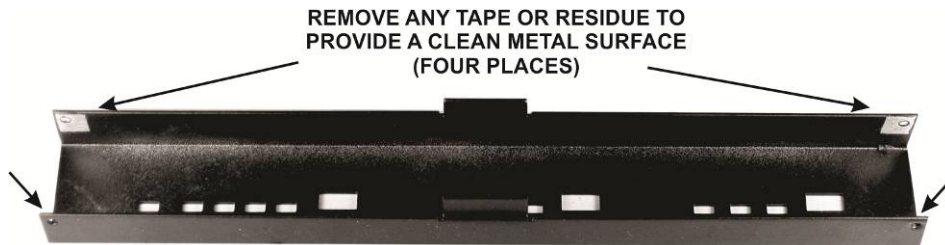

Figure 34. Preparing the Front Panel for Installation.
□ Locate the front panel and inspect the inside surface around the four screw holes (see Figure 34). Remove any tape or residue to provide a clean metal surface.